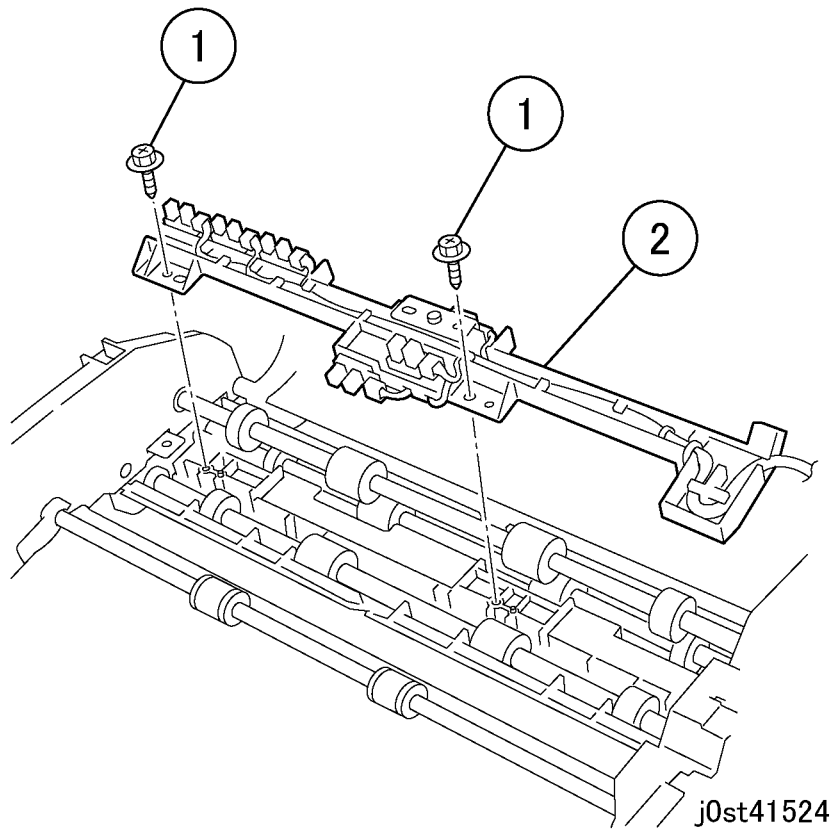

Figure 4 Removing the sensor holder
10. Remove the sensor holder. (Figure 4)